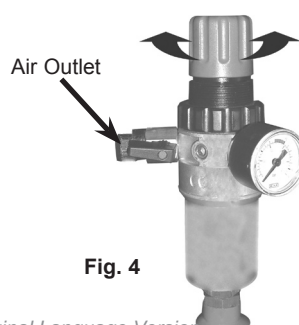

Fig. 4
- 4.5. It is possible to adjust the the outlet pressure by turning the regulator knob (Fig. 4) clockwise or anticlockwise to respectively increase or reduce the out-put pressure.